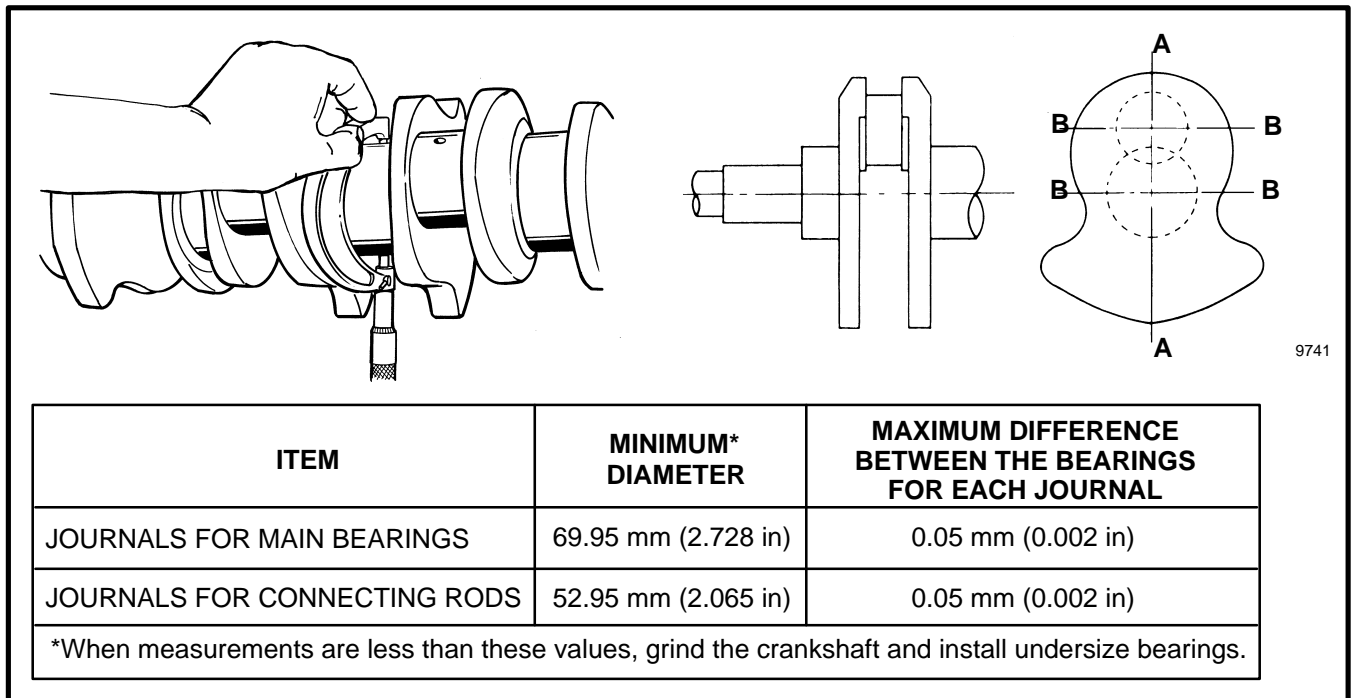

FIGURE 36. CRANKSHAFT SPECIFICATIONS
3. Use a micrometer to measure the journals for the bearings of the crankshaft. Make the measurements at the positions shown in FIGURE 36. The specifications are also shown in FIGURE 36.